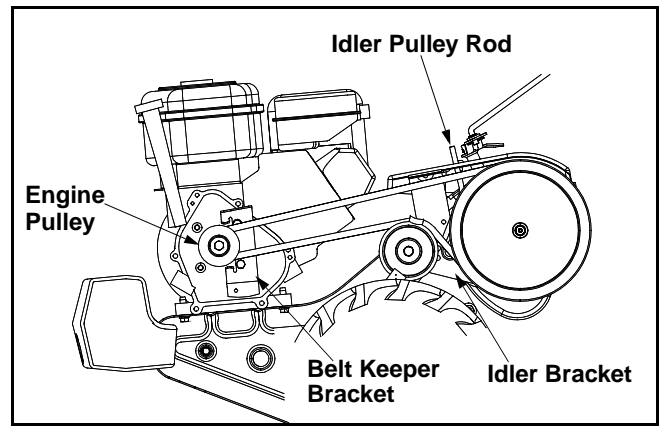

Figure 9
- Remove the hairpin clip and spring washer from the idler pulley rod. Refer to Figure 9.
- Remove the belt keeper bracket located behind the engine pulley by removing two hex bolts and lock washers. See Figure 9.
NOTE: Upon reassembly, make certain the belt is routed over the idler pulley and inside of belt keepers by engine pulley. See Figure 9.